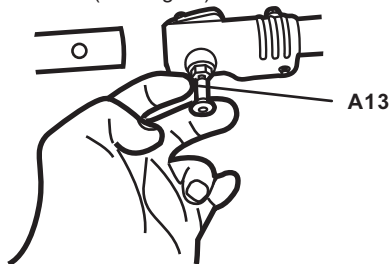

Fig. 2b
3. Pull out the locking pin (A13) and insert the extension (A21) into the clamp (A12). Rotate the extension (A21) slightly to let the locking pin engage in the hole. Release the locking pin. Always ensure the locking pin engages in the hole. (See Fig.2b)